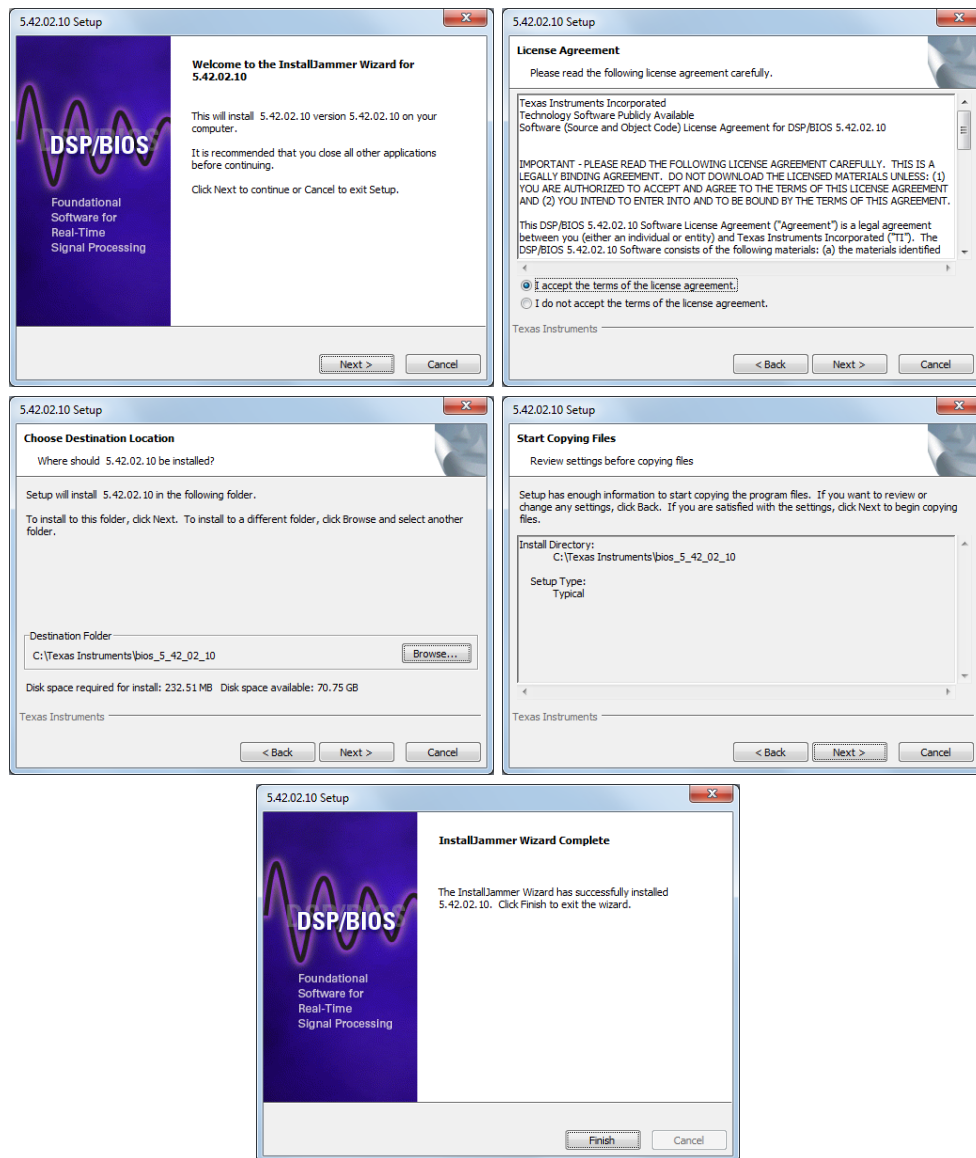

Figure 14: Installation of DSP/BIOS.
- Once downloaded, launch the executable and follow the installation procedure (Figure 14).